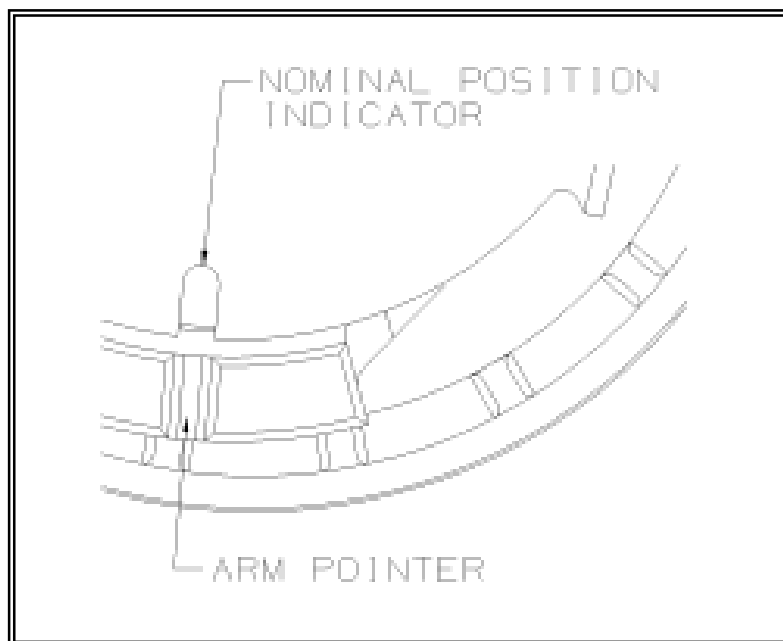

Figure 7: Arm Pointer aligns with Nominal Position Indicator
If the Arm Pointer aligns with the Nominal Position Indicator, the installation is complete (see Fig. 7). If not, proceed as follows.
15. Use the installation tool to hold the tensioner position and loosen the tensioner mounting nut enough to allow tensioner movement. Rotate the TBT shaft until Arm Pointer aligns with the Nominal Position Indicator on the Front Plate (nominal position, see Fig. 7).